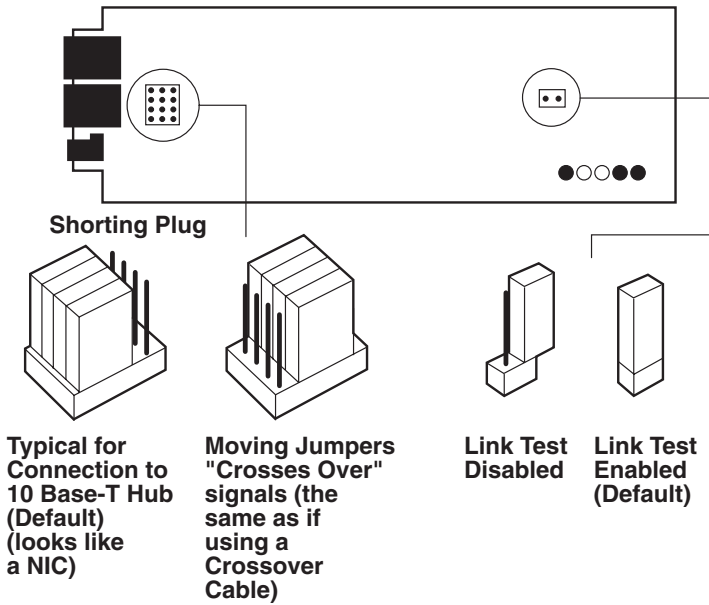

Figure 3-9. Jumper Settings.
- The LZ6000A-R3 is shipped with the Link Integrity Test set to ON (enabled). When power is connected, the Link Test indicator should not light, showing that the link is not yet established. After connecting to a 10BASE-T line, the indicator will light amber, indicating a “good link.” Check the manual that came with the 10BASE-T device that you are connecting to. If it requires Link Integrity Test to be OFF, move the jumper so it covers only one pin (see **Figure 3-9**). This will set the Link Integrity to OFF and the indicator on the face of the unit will not be lit.